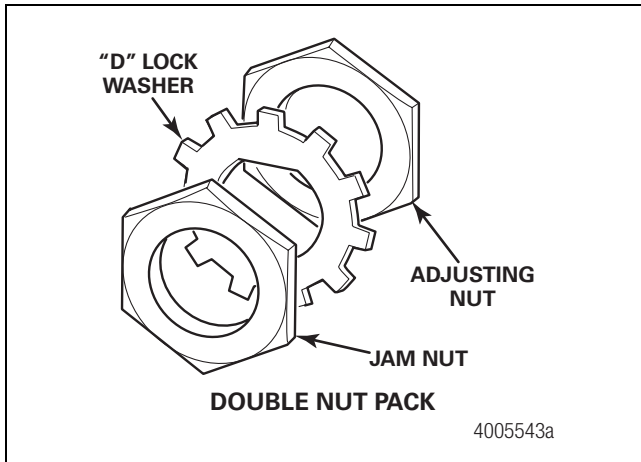

Figure 13.23
5. Use a 3.5-inch (89 mm) socket wrench to remove the jam nut, "D" lock washer and adjusting nut. Figure 13.23.